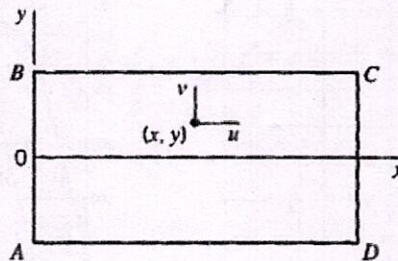

Figure 4
**Q.5** For small-displacement plane strain, the strain components in the plate ABCD, see Figure 4, in terms of the coordinate system  $(x,y)$ , are  $\epsilon_{xx} = Cy(L-x)$ ,  $\epsilon_{yy} = Dy(L-x)$ ,  $\gamma_{xy} = -(C+D)(A^2-y^2)$  where  $A$ ,  $C$ , and  $D$  are known constants. The displacement components  $(u,v)$  are  $u(0,0) = 0$ ,  $v(0,0) = 0$  and the slope  $\partial u(x,y)/\partial y$  is  $\partial u(0,0)/\partial y = 0$ . Determine  $u$  and  $v$  as functions of  $(x,y)$ .